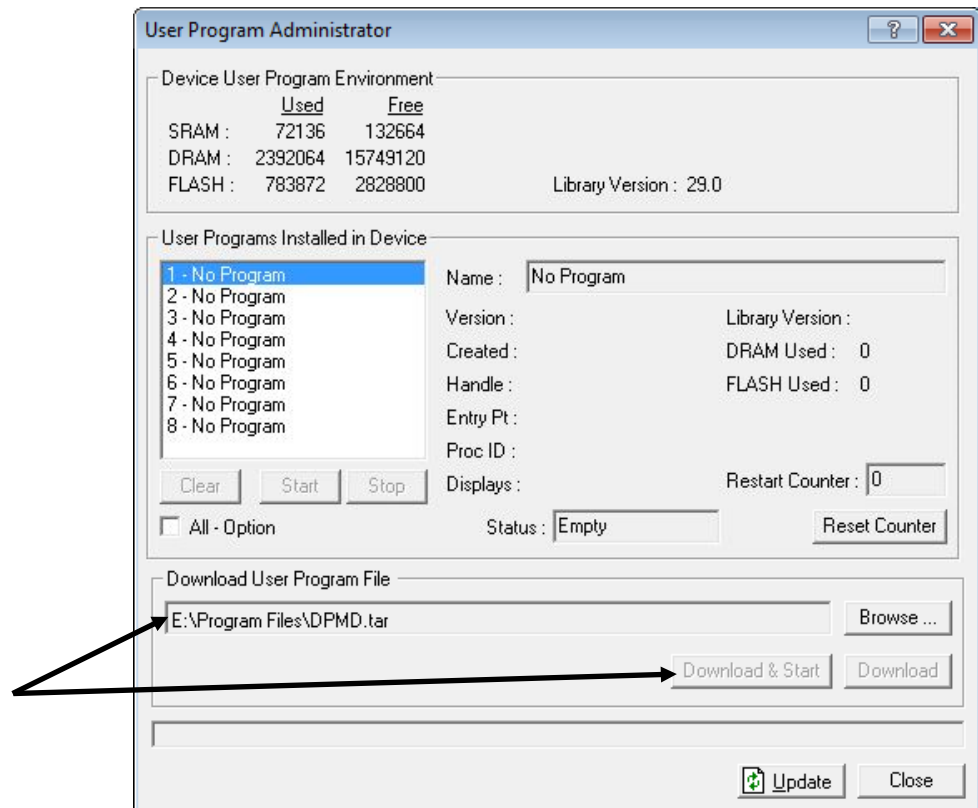

Figure 2-5. User Program Administrator
- Click **Open** to select the program file. The User Program Administrator screen displays. As shown in Figure 2-5, note that the Download User Program File frame identifies the selected program and that the **Download & Start** button is active: